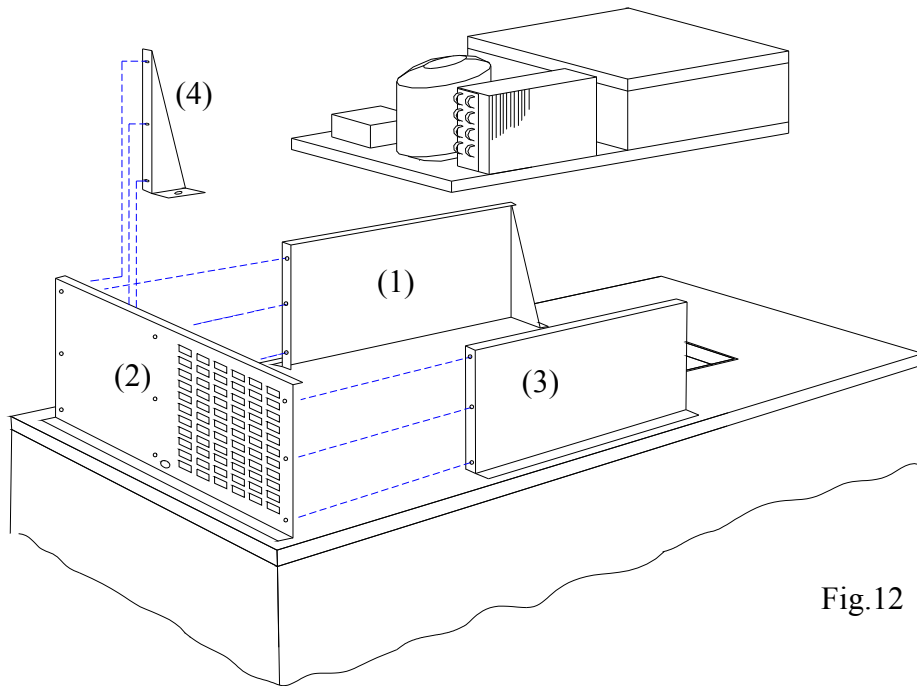

Fig.12
3. Enclosure Assembly (Fig.12)